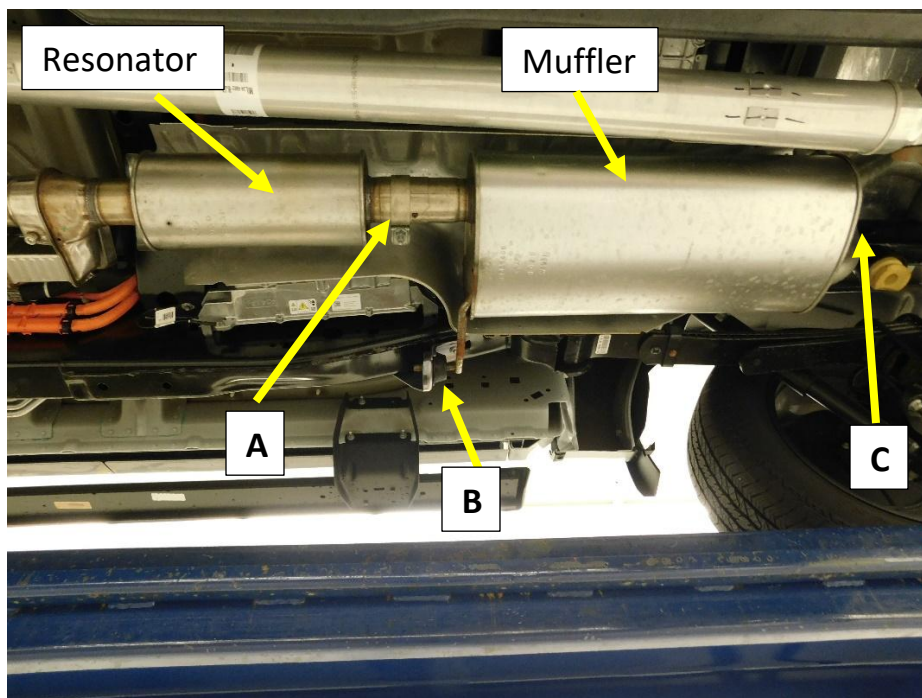

Figure.6
- Loosen the clamp at the slip joint between the muffler and the Resonator **(A)**. Fig.6
- Remove the (x3) bolts at the muffler hanger on the frame rail **(B)**. Fig.6
- Remove the bolt from the muffler hanger over the muffler and remove the hanger from the cross brace **(C)**. Fig.6